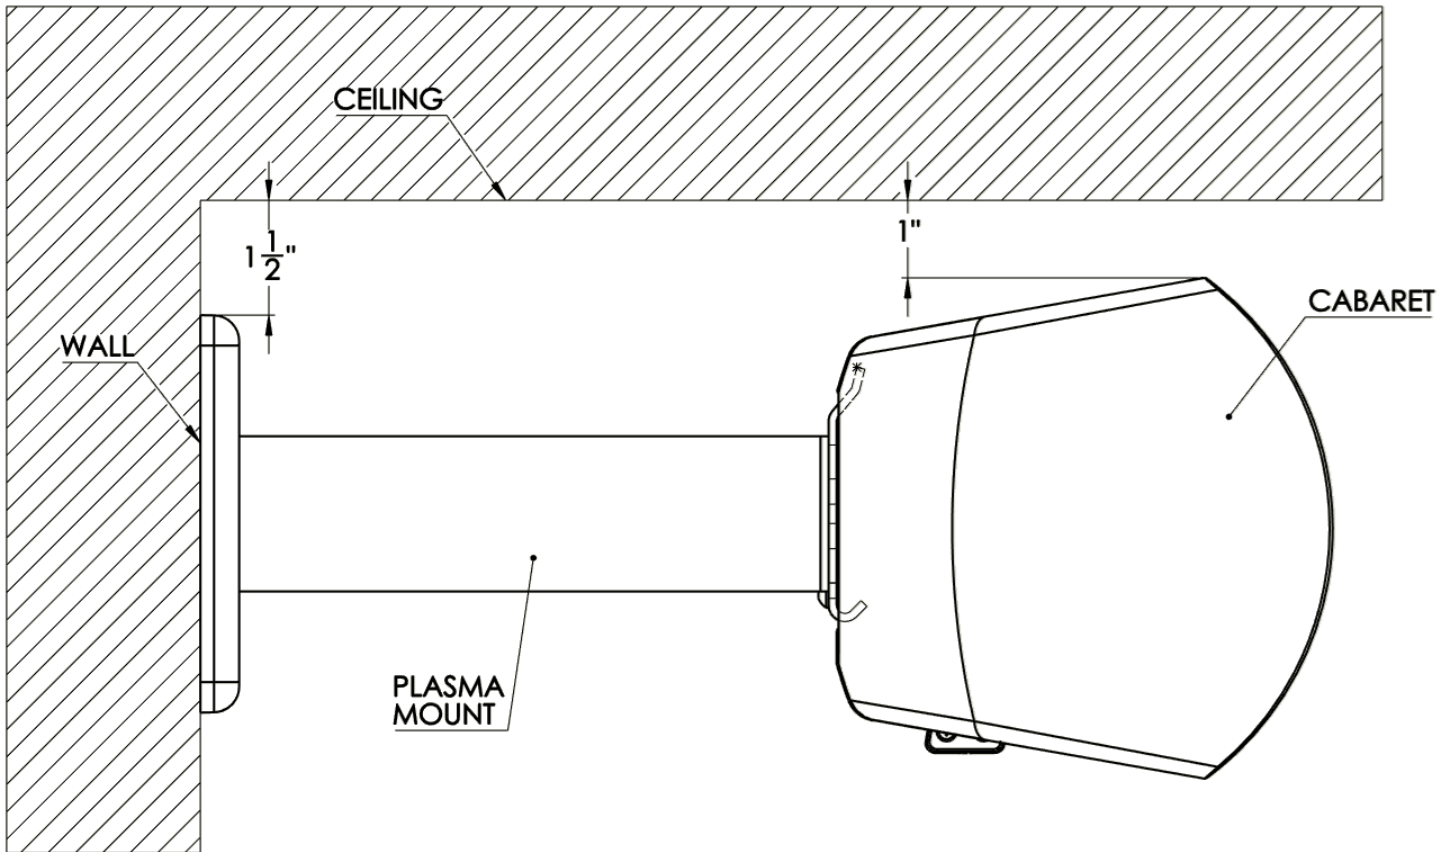

Figure 13: Wall mount detail
6. For the minimum clearance dimensions, (see figure 13).